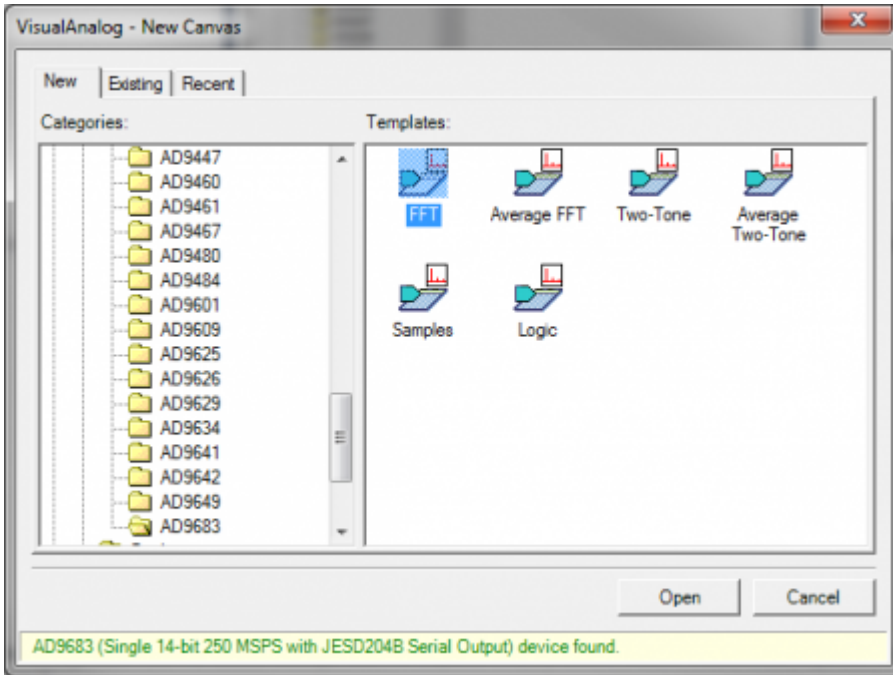

Figure 3. VisualAnalog, New Canvas Window
1. Open VisualAnalog on the connected PC. The appropriate part type should be listed in the status bar of the **VisualAnalog - New Canvas** window. Select the template that corresponds to the type of testing to be performed (see Figure 3, where the AD9683 is shown as an example).